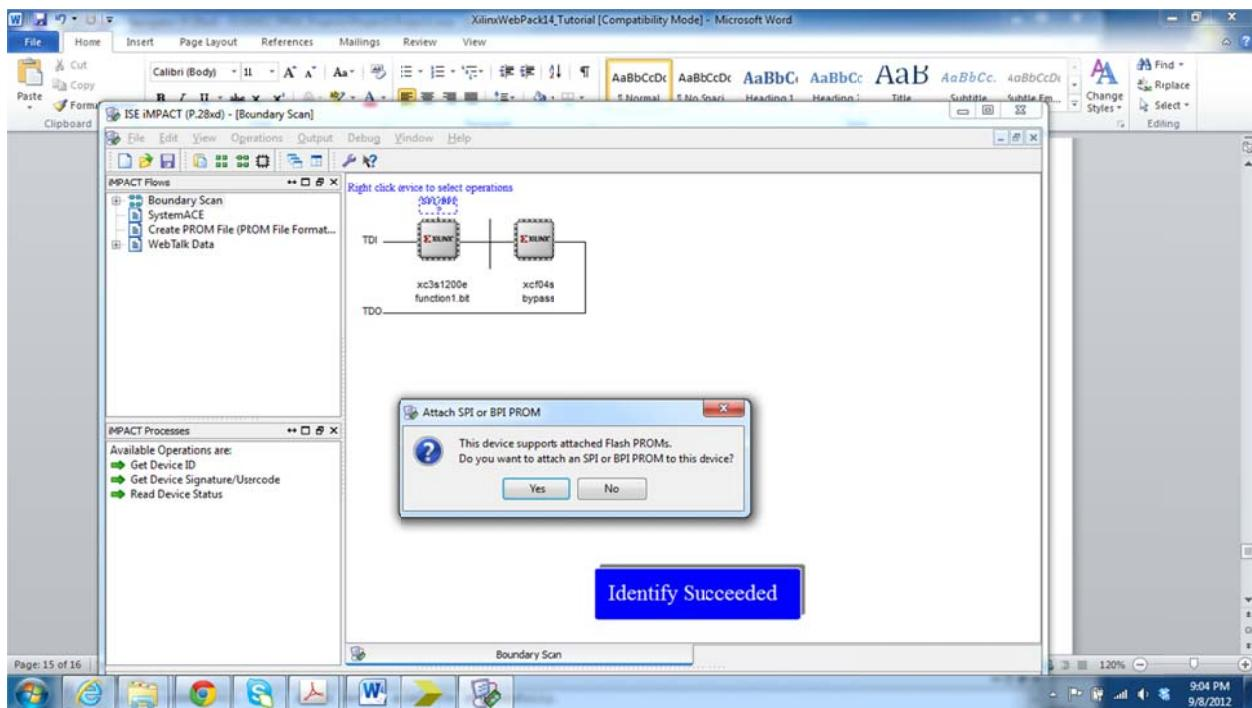

**Figure 15B**
16. Click **yes** to continue with configuration file assignment as shown in Figure 15B. Choose function1.bit as shown in Figure 16B.